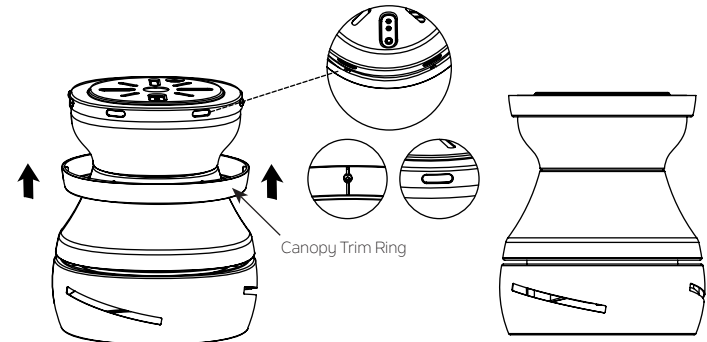

Fig. 12
Step 2. Push the canopy trim ring up until it locks into place at the top of the canopy. (Fig. 12)